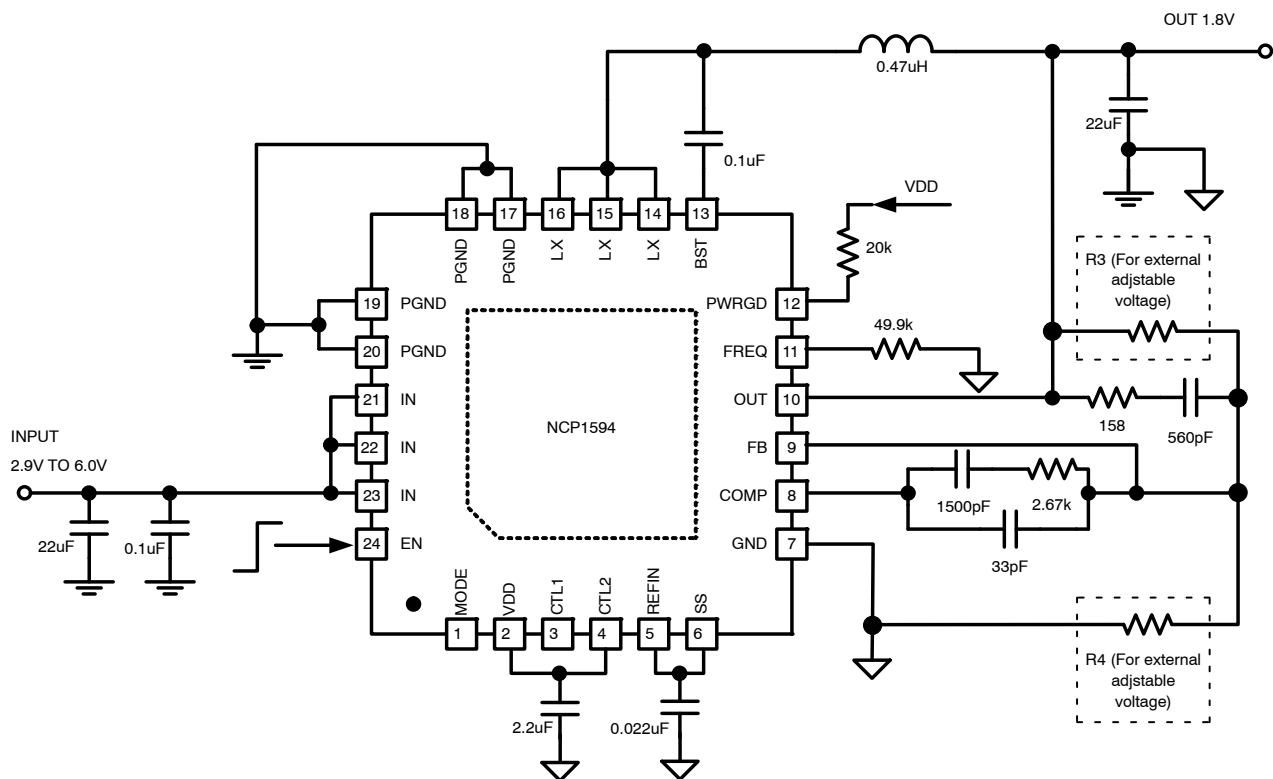

Figure 3. Typical Application Schematic.
*Install an 8.06 kΩ resistor at R3 and do not install a resistor at R4 (see Figure 3).
The high switching frequency range of the NCP1594 allows the use of ceramic output capacitors. Since the ESR of ceramic capacitors is typically very low, the frequency of the associated transfer function zero is higher than the unity-gain crossover frequency, f_c , and the zero cannot be used to compensate for the double pole created by the output filtering inductor and capacitor. The double pole produces a gain drop of 40 dB/decade and a phase shift of 180°. The compensation network error amplifier must compensate for this gain drop and phase shift to achieve a stable high-bandwidth closed-loop system. Therefore, use type III compensation as shown in Figures 3 and 4. Type III compensation possesses three poles and two zeros with the first pole, $f_{\text{P1_EA}}$, located at zero frequency (DC). Locations of other poles and zeros of the type III compensation are given by: